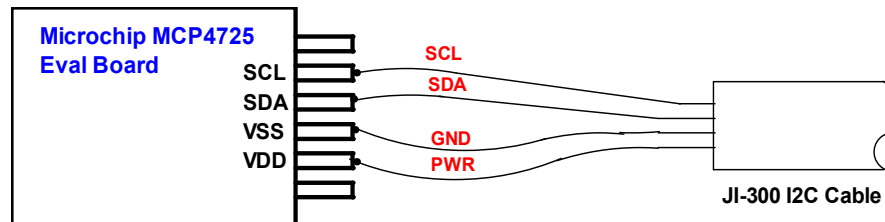

Figure 6. Connections to MCP4725 Evaluation Board
4. Connect the four I2C bus probes (SDA, SCL, PWR, and GND) to the MCP4725 evaluation board. (See Figure 6)